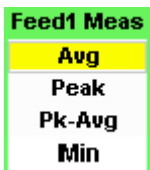

Figure 2-51 Measurement type pop-up
- 5 Press  to display the **Feed Measurement** pop-up (see Figure 2-51) and use the  and  to assign a measurement type.